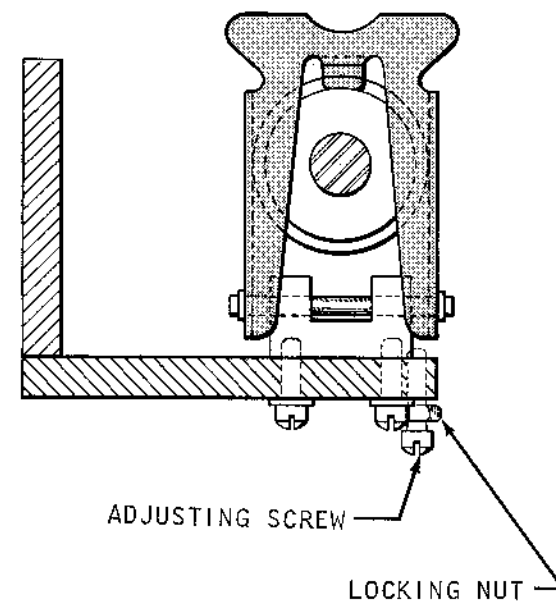

Figure 40. Side Aligner Adjustment
7. Keeping the machine at 351°, loosen the left side aligner lock nut and turn the adjusting screw to position the aligner $3\frac{7}{64}$ " from the inside of the left side frame (Figure 40). Tighten the lock nut. NOTE: This step is only necessary on machines with an adjustable left side aligner.